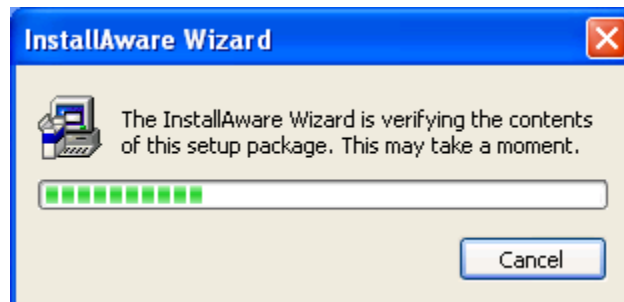
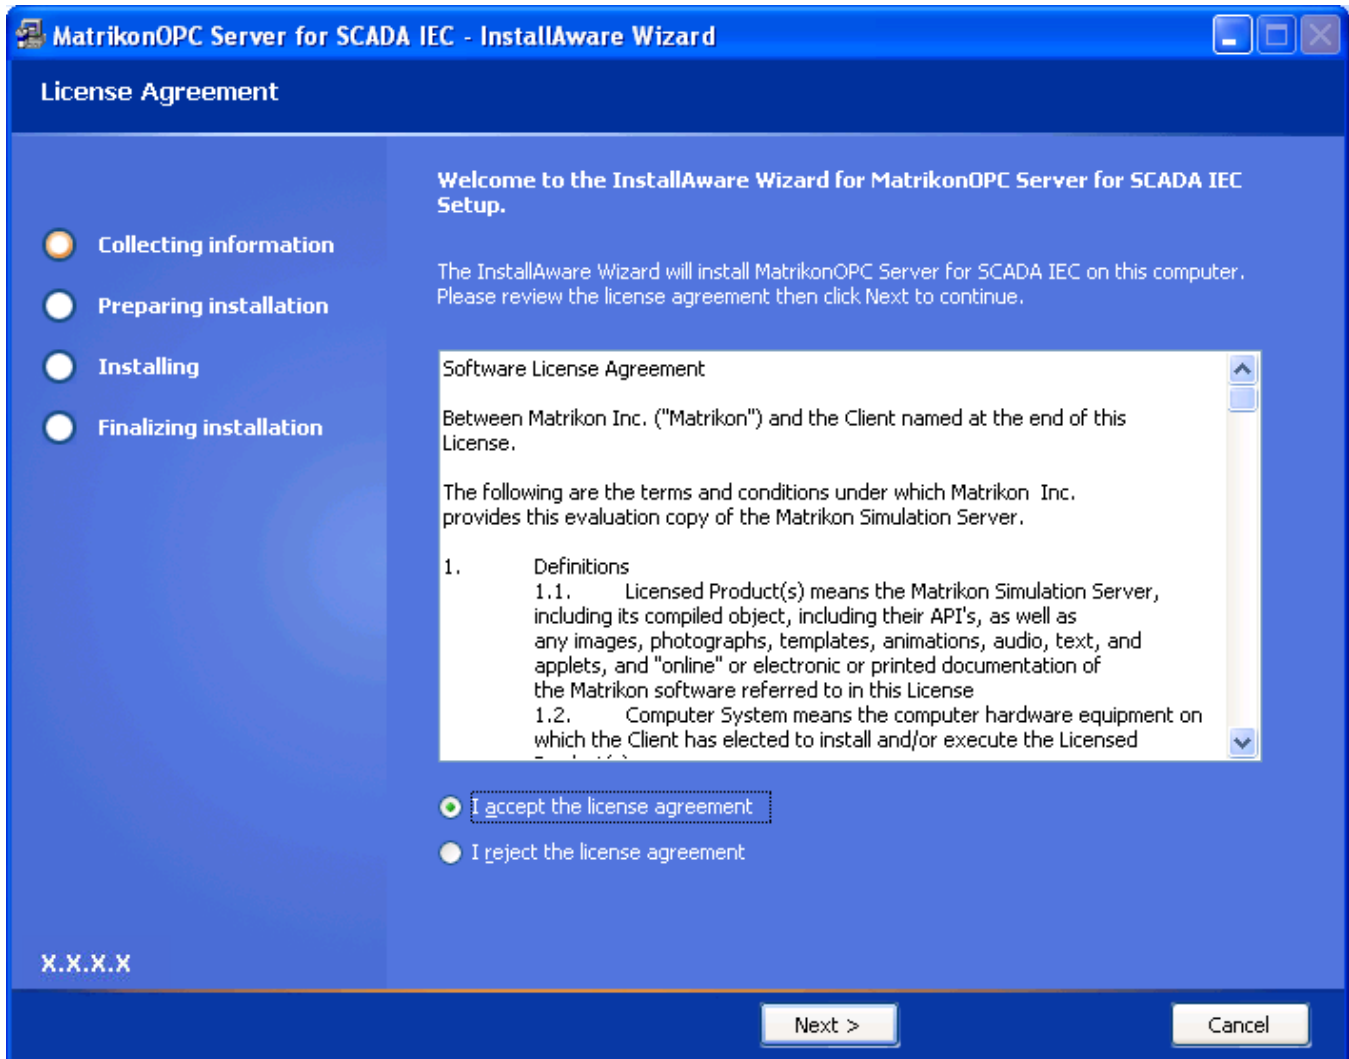

Figure 1 - InstallAware Wizard Verification Window
Figure 2 - License Agreement Screen
2. If the MatrikonOPC **Welcome** screen does not automatically appear, double-click the *MatrikonOPCSCADAIEC.exe* file. The **InstallAware Wizard** verifies its contents (Figure 1) and the **License Agreement** screen (Figure 2) appears.